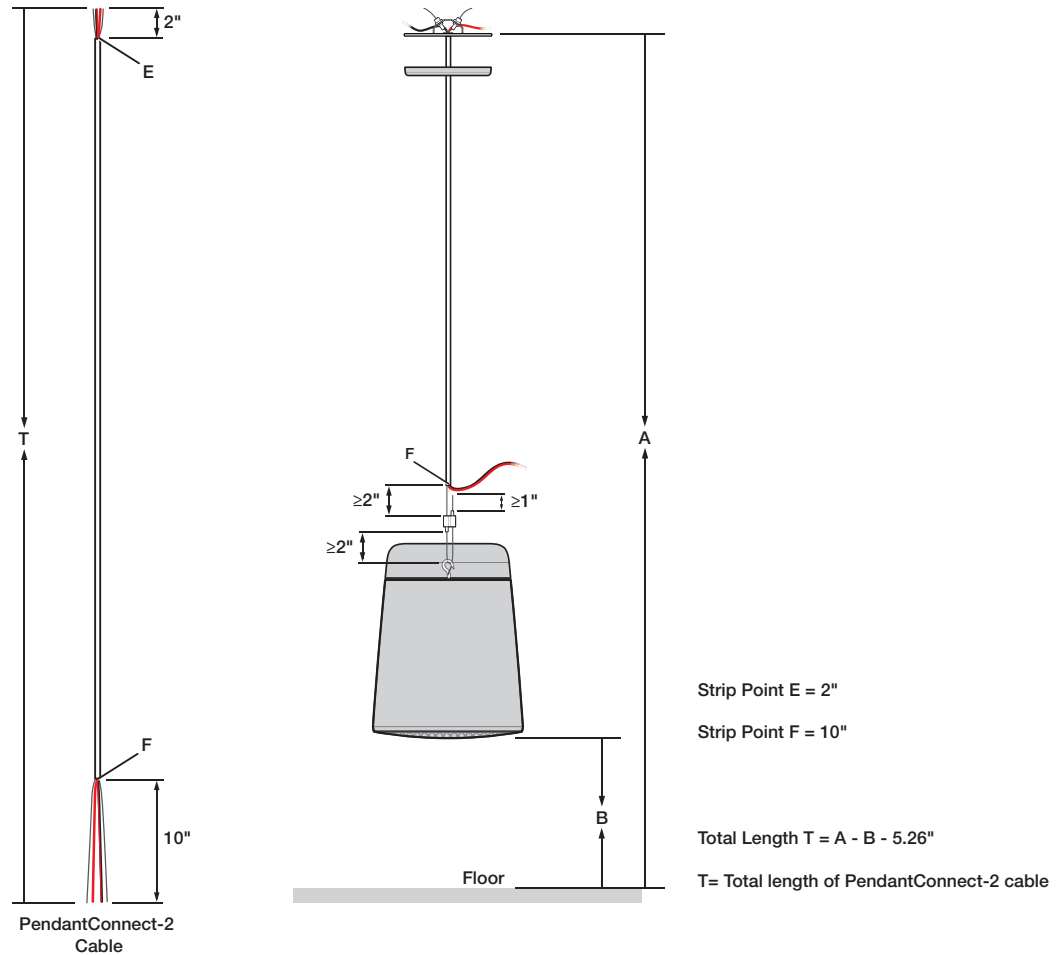

Figure 23. Cutting Bulk Cable for Ceiling Bracket
9. Route the free ends of the two steel support cables through the two ceiling bracket cable locks (see figure 23) **4**. Pull the steel support cable up until the top of the jacket is flush with the top of the grommet as shown in the illustration below (see the inset side view **2**). Inserting the steel cable through the bottom of the cable lock locks the cable in place. Pressing the cable lock release unlocks the cable.